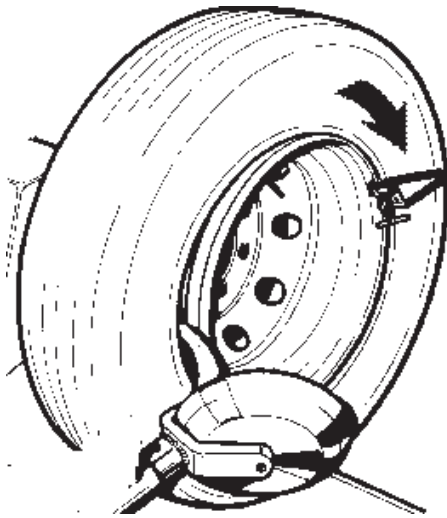

Fig.20
4. Turn the chuck *clockwise* until the tire is completely mounted (Fig.20).